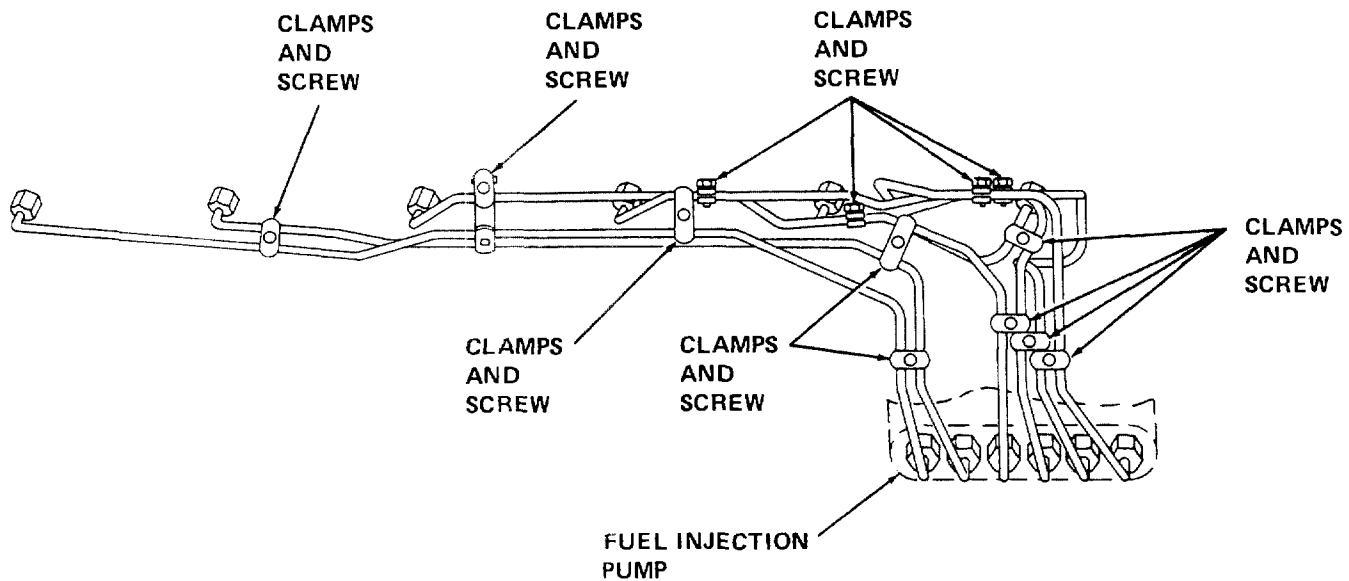

Figure 4-48. Fuel Injection Lines, Removal and Replacement
a. Inspection of Fuel Injection Lines. Refer to figure 4-48 and inspect lines, for leaks, deformation and security of attachment. Cracked or missing paint may indicate a leak.
b. Replacement of Fuel Injection Lines. When fuel injection lines are removed from the engine put identification tags on the fuel lines as they are removed, so they can be put in the correct location when they are installed (see figure 4-48).
(1) Remove defective lines, as required, by loosening the nuts which secure the line to the fuel injection pump and fuel injection valve.
(2) Remove clamps and screws as required.
(3) Install new lines by first securing line to fuel injection pump and fuel injection valve. Tighten the fuel line nuts to 30 ±5 foot-pounds (40 ±7 Newton-meters).